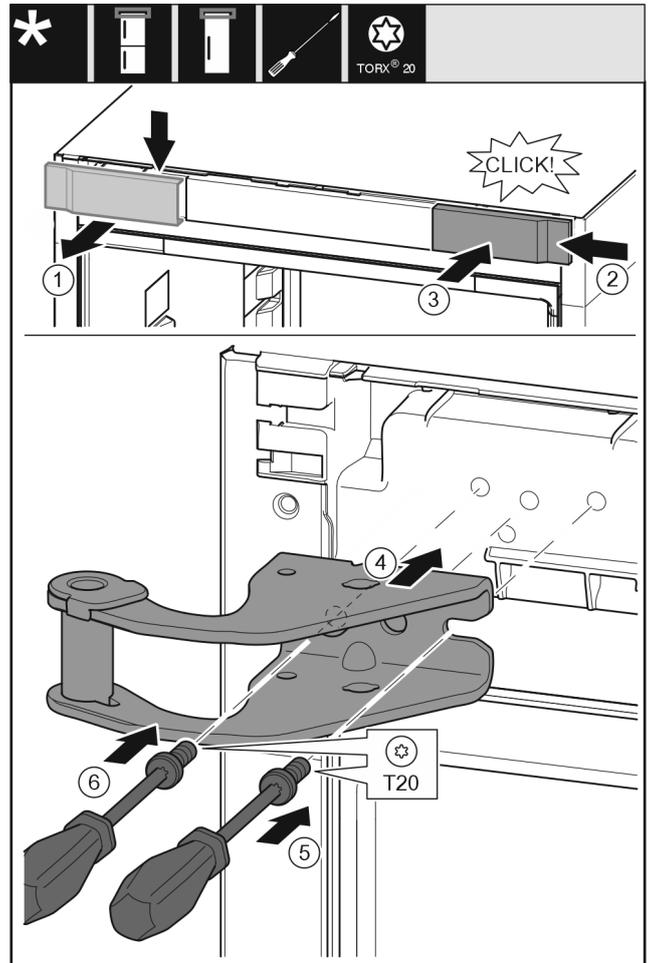

Fig. 16
- ▶ Take off the cover from above to the front. Fig. 16 (1)
- ▶ Rotate the cover 180° and clip onto the other side from the right. Fig. 16 (2)
- ▶ Latch the cover into place. Fig. 16 (3)
- ▶ Position the upper bearing bracket. Fig. 16 (4)
- ▶ Insert the screw with a T20 screwdriver and tighten it. Fig. 16 (5)
- ▶ Insert the screw with a T20 screwdriver and tighten it. Fig. 16 (6)